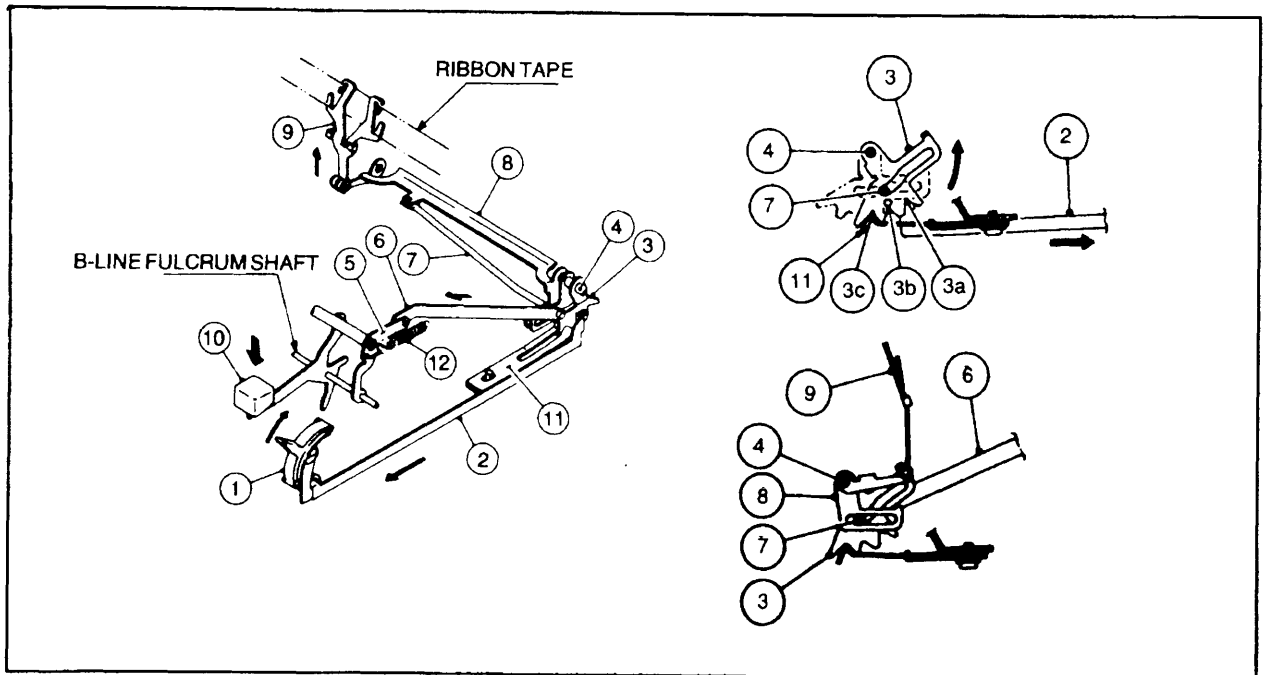

Fig. 2-28. Here is yet another view of a ribbon lift and color change mechanism (courtesy of OLYMPIA USA INC.).
For a view of yet another ribbon lift and color change mechanism, see Fig. 2-28. When the color selector (1) is operated, the cam lever (3) is rotated around the shaft (4) by the color selector link (2). The cam lever (3) is provided with three cams (3a, 3b and 3c). Position 3a corresponds with "red," position 3b with "black," and 3c with "stencil." The cam lever (3) is retained at the "color-selected" position by the color select detent spring (11).